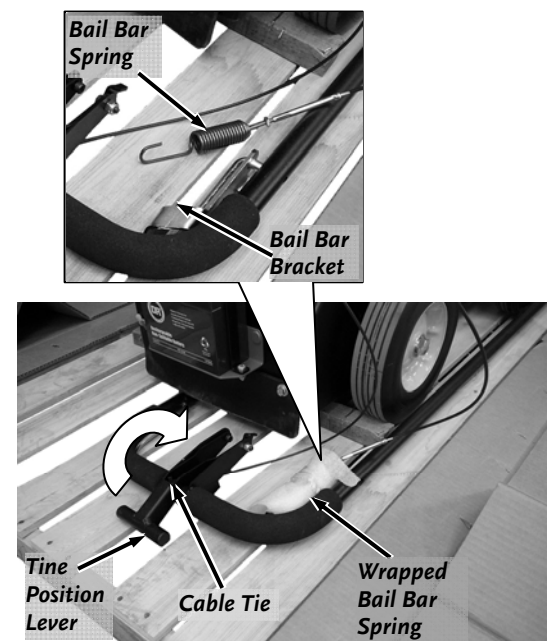

Figure 2
1. Cut the plastic wrap from around the Bail Bar Spring with a Utility Knife so you can access the Spring (**Figure 2**).